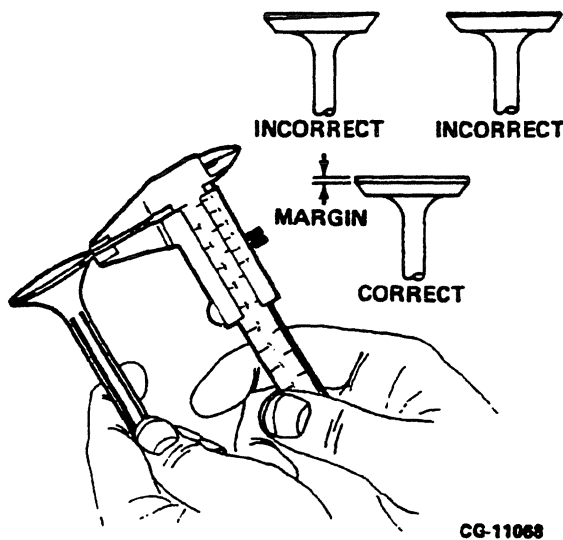

Figure 3.27. Measure Valve Face Margin
- a. Maintain a minimum valve face margin across the entire valve face, Figure 3.27. Refer to "SPECIFICATIONS". Use a caliper to measure at four locations.